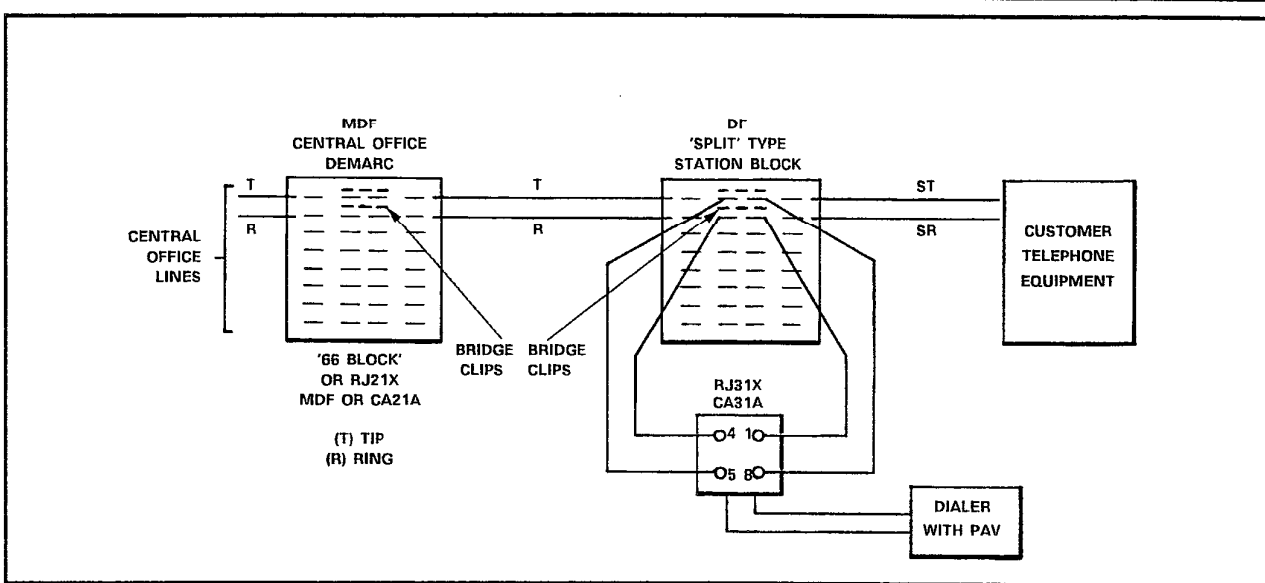
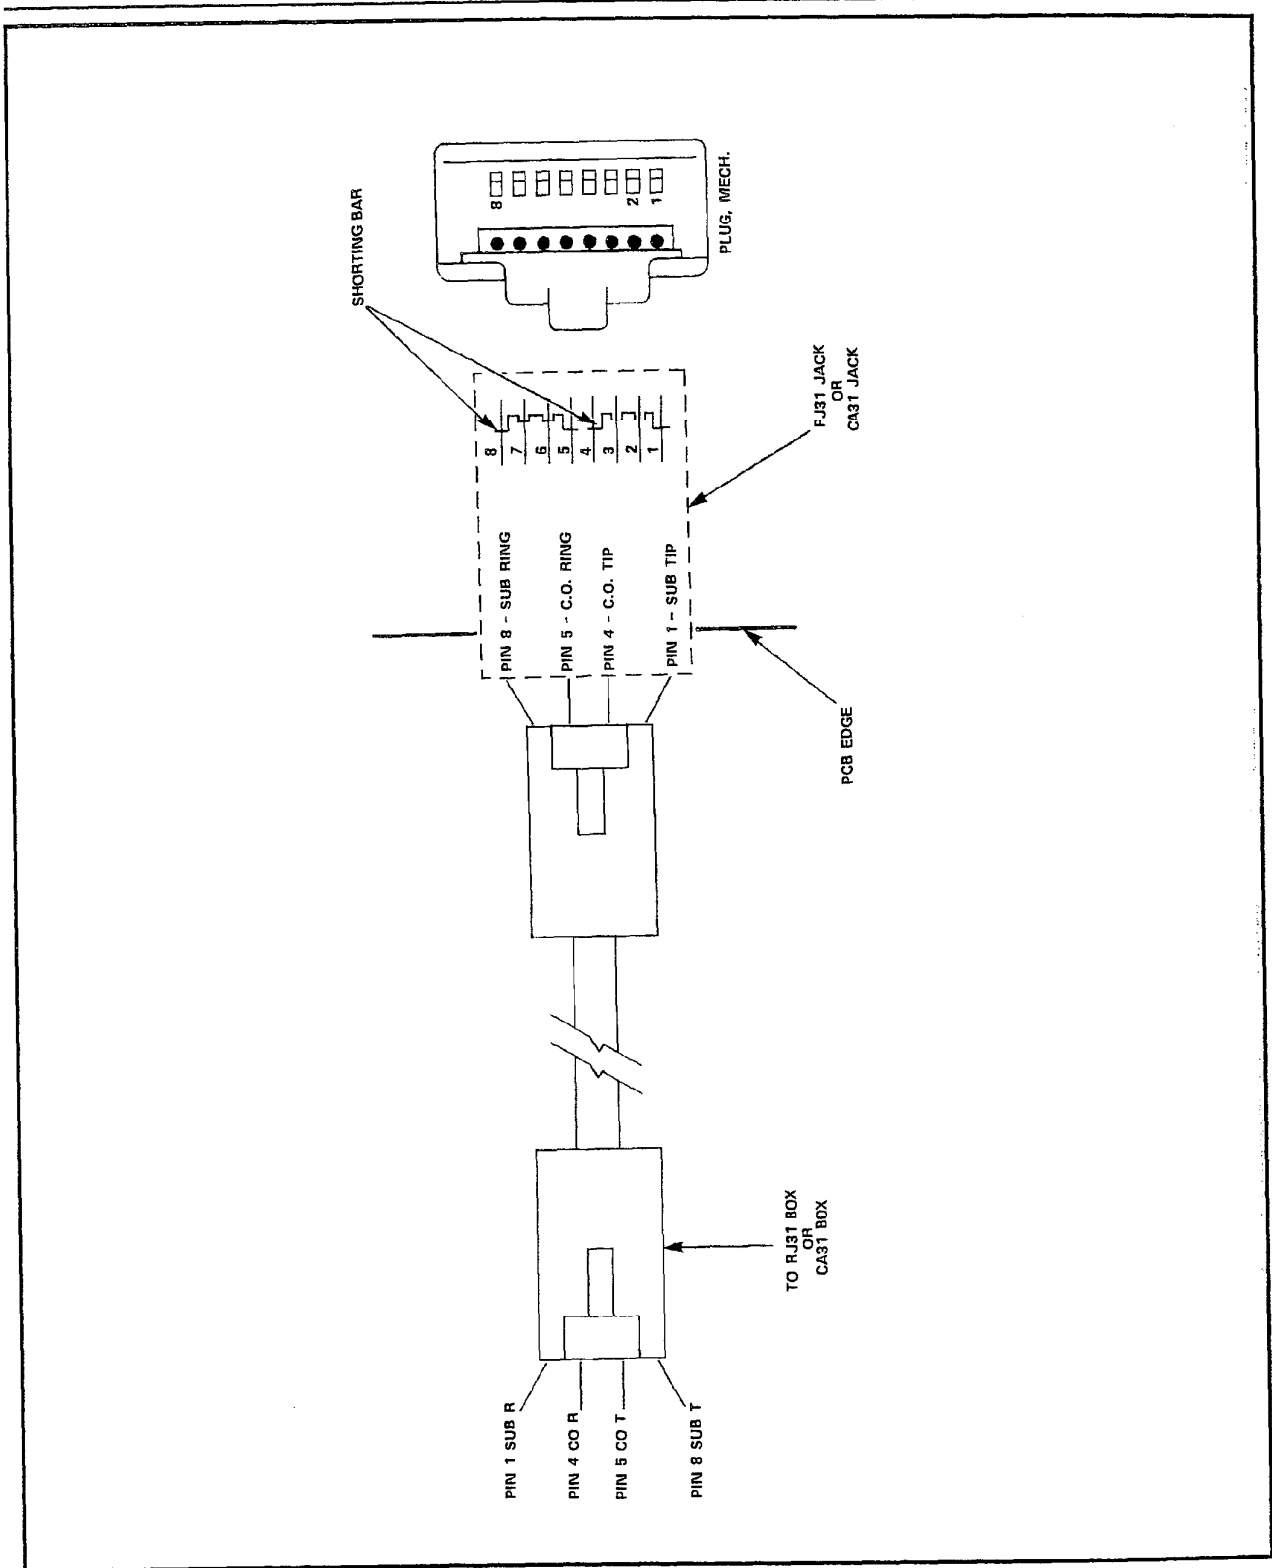

Figure 4-5. Typical Connection Configuration
Figure 4-7, USOC RJ31X Jack and Cable Assy.
**4.15** Figure 4-7 illustrates the USOC RJ31X Connector and cable assembly as used by the Dialer. Figure 4-5 illustrates the installation wiring of the Telco-supplied RJ31X USOC jack and other connections from the Central Office. For the unit to operate properly, the bridge clips at the "split" type station block must be removed.